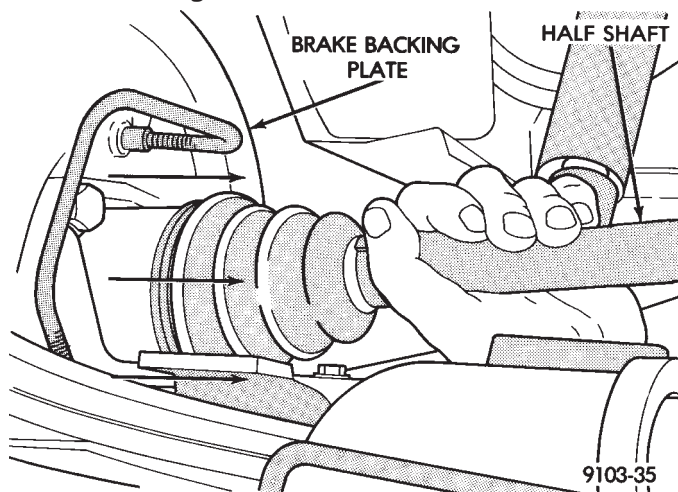

Fig. 5 Half Shaft Removal
- (6) The half shaft is spring loaded. Compress inner half shaft joint slightly and pull downward to clear rear differential. Then pull half shaft assembly outward to remove (Fig. 5).
- (7) For Installation, Reverse Removal Procedure.